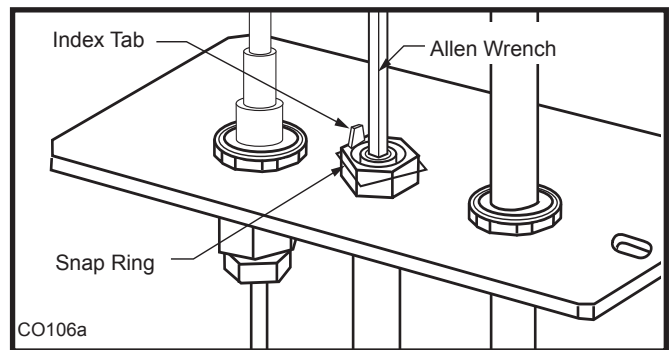

Fig. 10 Remove pilot orifice.
- Remove pilot orifice with Allen wrench. (Fig. 10)